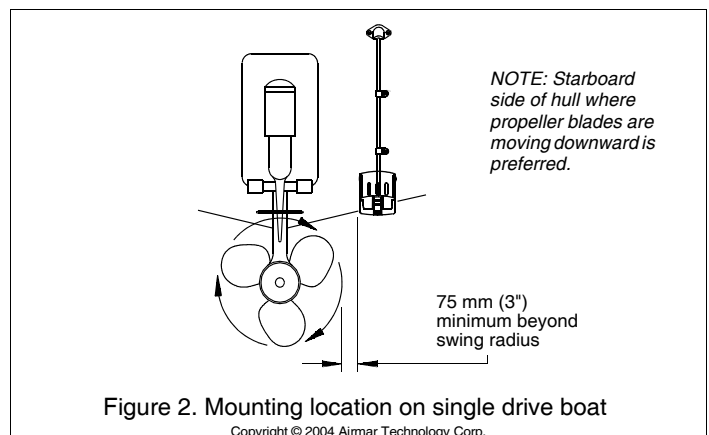

Figure 2. Mounting location on single drive boat
- **Single drive boat**—Mount at least 75mm (3") beyond the swing radius of the propeller (see Figure 2). The starboard side where the propeller blades are moving downward is preferred.